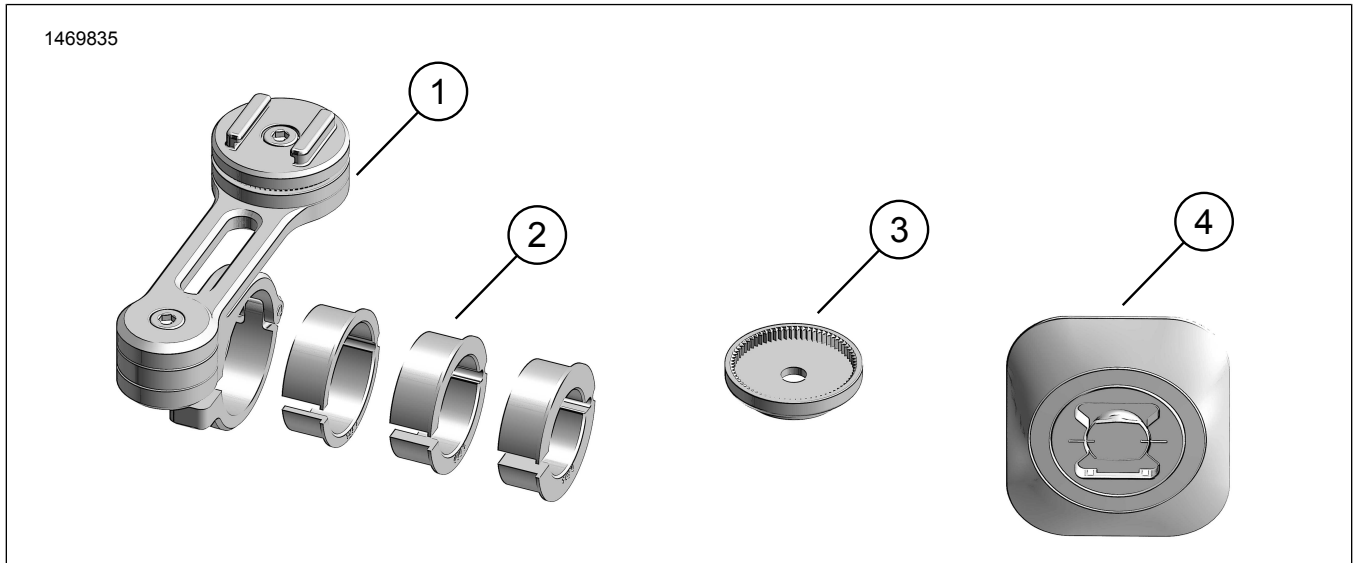

Figure 1. Kit Contents: Universal Phone Carrier w/ Handlebar Mount
1. See Figure 1. Install handlebar mount (1).
1. See Figure 1. Install universal interface (4).